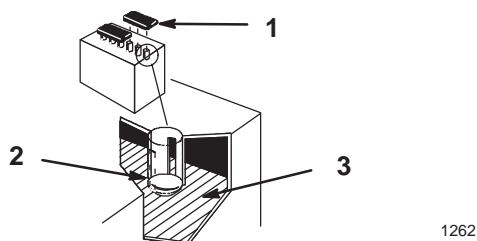

Figure 37
2. Open covers to see into the cells. The electrolyte must be up to the lower part of the tube (Fig. 37). Do not allow the electrolyte to get below the plates (Fig. 37).
2. Lift off the filler caps (Fig. 37).
3. Slowly pour distilled water into each battery cell until the level is up to the lower part of the tube (Fig. 37).